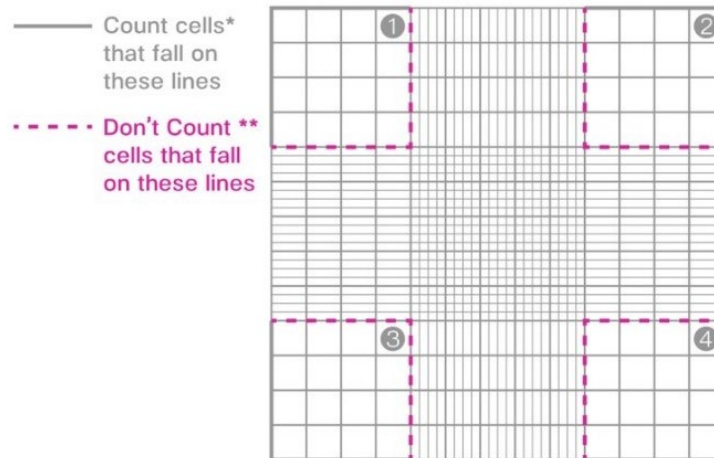

Figure 6. Example hemocytometer and cell counting.
1. Count both viable and non-viable cells in each quadrant of the hemocytometer (see Figure 6).